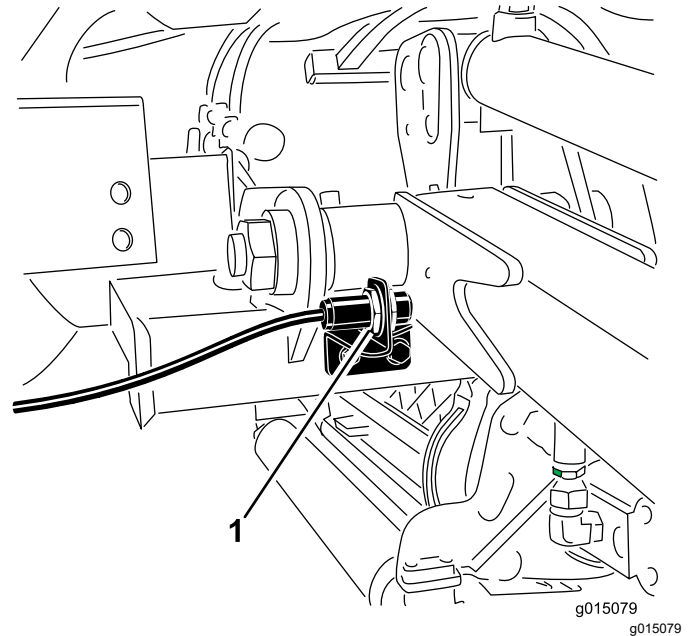

Figure 39
2. The lift-arm switch is located behind the front right lift arm (Figure 39).
3. Loosen the switch mounting screws (Figure 39) and move the switch up to increase the lift-arm turnaround height or move the switch down to decrease the lift-arm turnaround height.